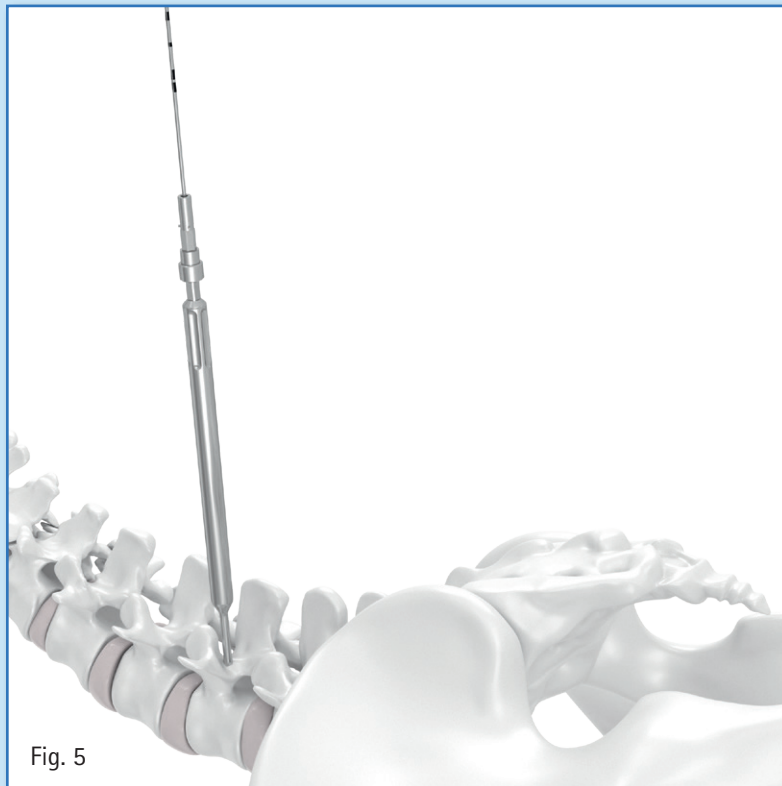

Fig. 5
3. The K-Wire (SZ370) is introduced through the cannulation of the Bone Access Needle or the K-Wire Aiming Device using the K-Wire Forceps (SZ367R) and the Slotted Hammer (SZ368R). The roughened tip of the K-Wire needs to be placed inside the vertebra. The K-Wire should be introduced so its distal tip represents the end position of the pedicle screw tip. During insertion, monitor the K-Wire tip to ensure it does not penetrate the anterior wall of the vertebral body. (Fig. 5)